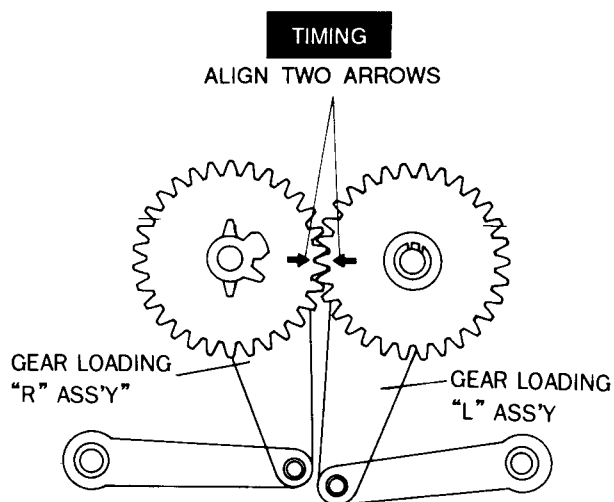

Fig. 52 Reassembly of Gear Loading "L", "R" Ass'y
1. Reassemble the gear loading L/R ass'y in the eject mode while aligning the timing mark. (Refer to Fig. 52)